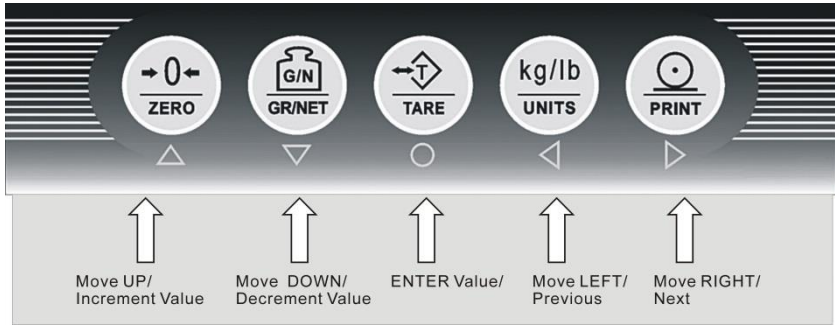
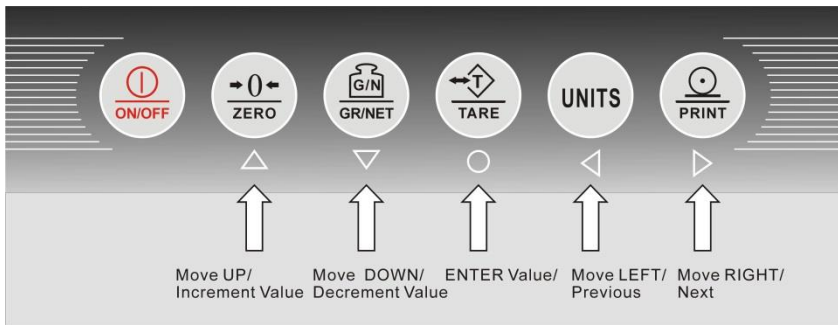

Fig. 4.1 Front Panel Configuration of 805TS
Fig. 4.2 Front Panel Configuration of 805BS series
Fig.4.1 and Fig.4.2 are the indicators' front panel configuration that will indicate the LED/LCD indicator lights/symbols and keypad configurations. Signs or symbols under the keys are for configuration operation use (refer to Section 9 for details).
▶, ◀ are for moving forward and backward while ▲, ▼ are for increasing and decreasing the digit value. Upon completing Input Item Code, press the ○ key if the stored Item Code is not 00. Item Code of the current count items is then stored and the keypad returns to normal operating function as shown in Fig. 4.1 (805TS series) and Fig.4.2 (805BS series).